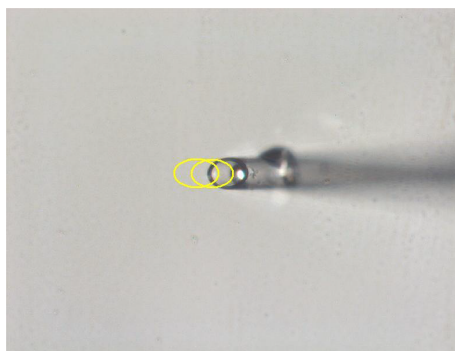

Figure 6.23: *Capillary starts moving sideways, when touching the slide by moving the capillary down.*
14. Slowly lower the capillary down to the slide until it touches the latter. The contact position can be recognized by the onset of the sideward movement of the capillary as shown in Fig. 6.23.